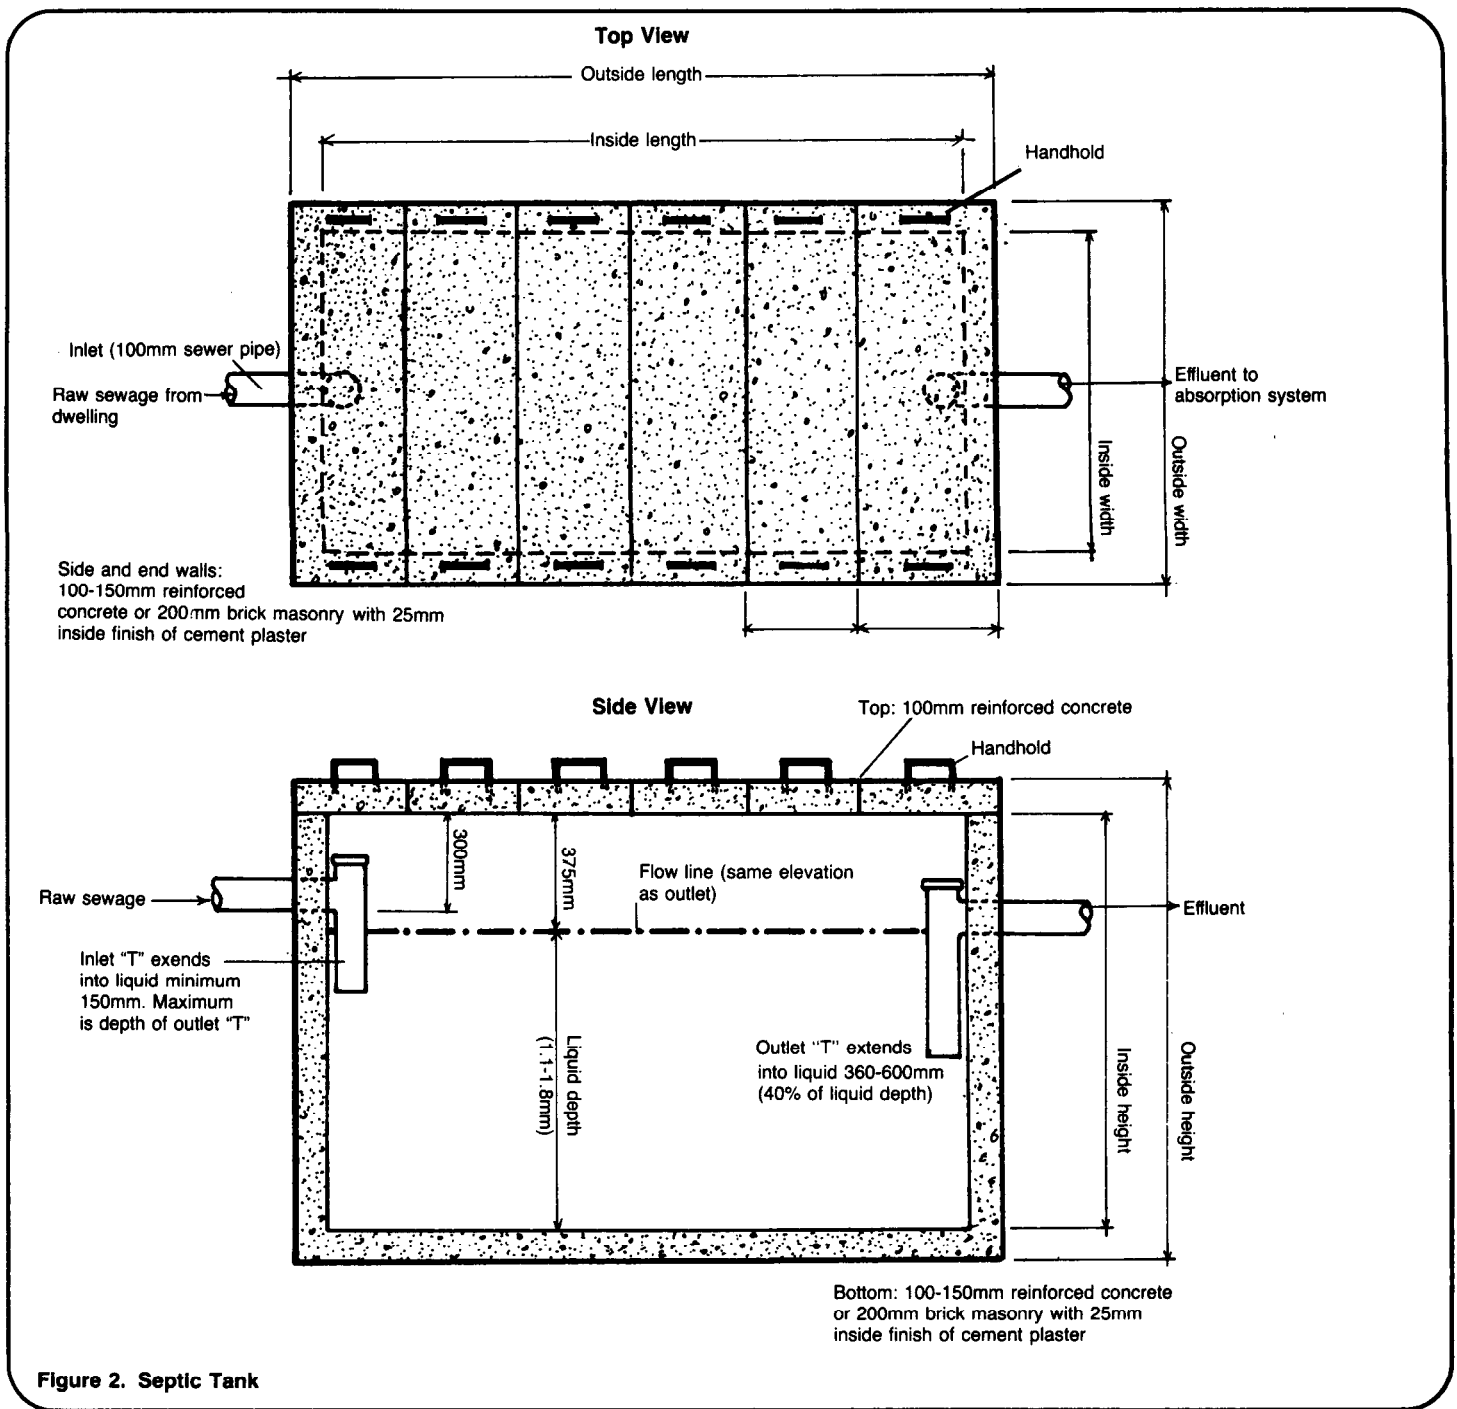
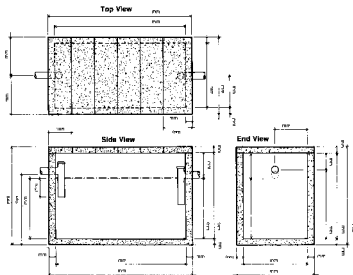

Figure 2. Septic Tank
Figure 3. Technical Drawing of Septic Tank
Study Figure 2 while following these steps.
8. The bottom of the inlet pipe (the pipe entering the septic tank, not the "T" fitting) is 300mm below the top of the tank. The bottom of the outlet pipe (the pipe leaving the septic tank, not the "T" fitting) is 75mm below the bottom of the inlet pipe, or 375mm below the top of the tank (see Figure 2).
8. Using the calculations from steps 1 through 7 and the information in Figure 2, prepare a plan view (top, side, and end views) of the septic tank. Figure 3 shows a blank plan